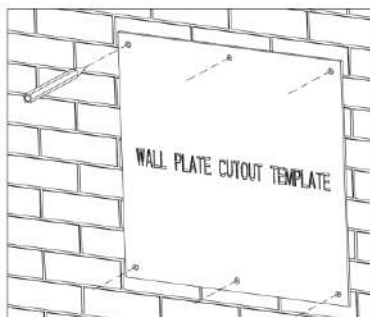

Figure 4.8 Mark the punch position
- (1) Use the punch positioning plate in the packaging box to determine the punch position. As shown in Figure 4.8. Level the holes with a level ruler and mark it with a marking pen.